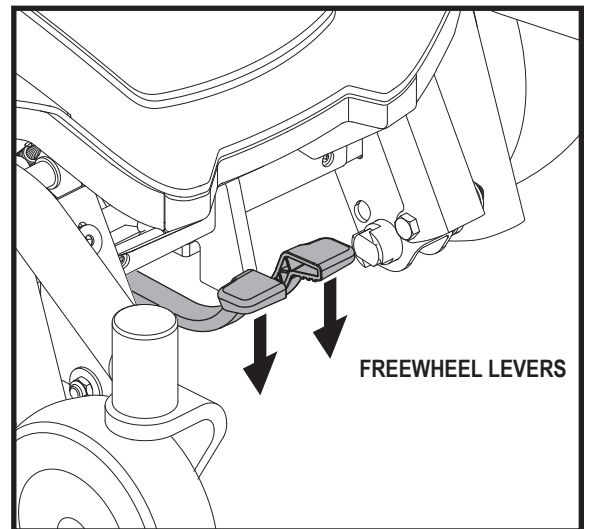

Figure 5. Freewheel Mode (Drive Disengaged)
3. Push both levers downward to disengage the drive motors (freewheel mode). See figure 5.